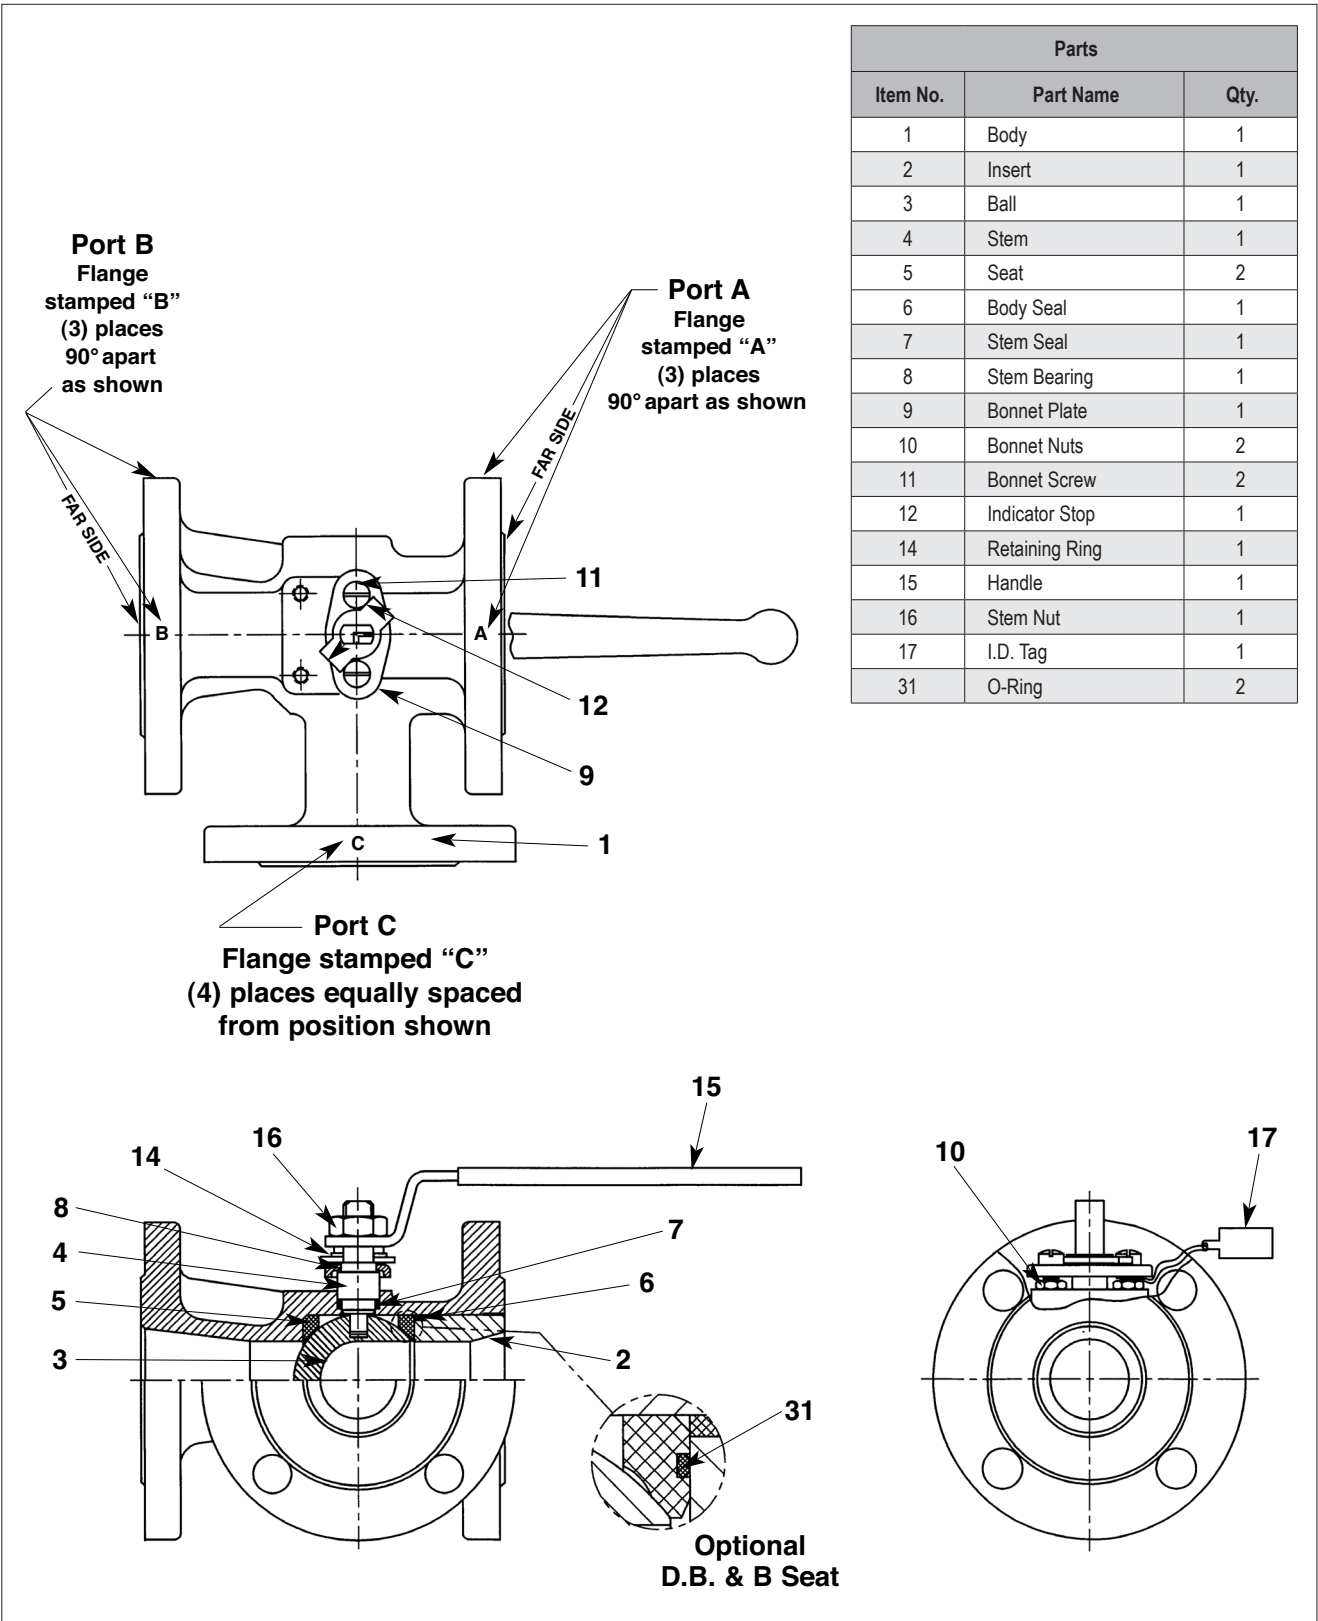

Figure 5.
- c. **From Figure 5 or 6;** the ballooned part number, part name and quantity required.
- From **Figure 5 or 6**, the ballooned part number, part name and quantity required.